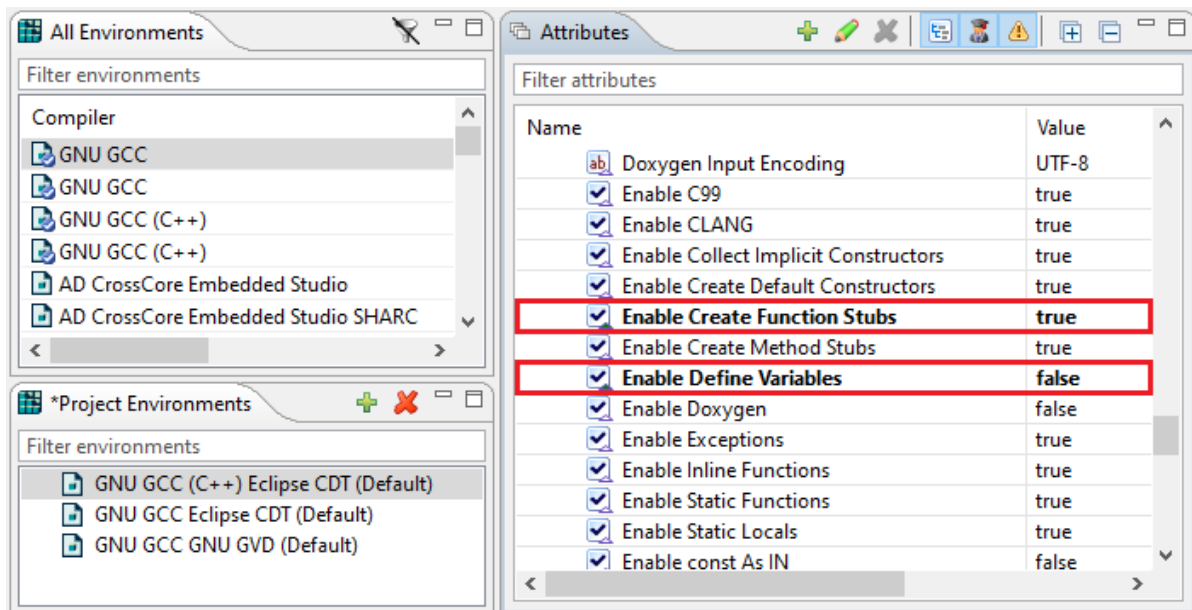

Figure 6.164: Change external variable/function settings in the TEE
- Set “Enable Define Variables” to “false” in the Attributes view of the TEE perspective with a doubleclick (see figure 6.164).
- Set “Enable Create Function Stubs” to “true” in the TEE Attributes view with a doubleclick (see figure 6.164).